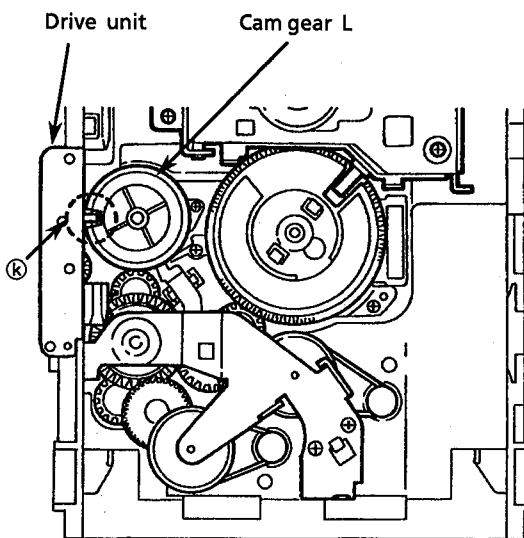

Fig. 41
2. Rotate the Cam gear L so that the drive unit's pole ⑧ is positioned as shown in Fig. 41.